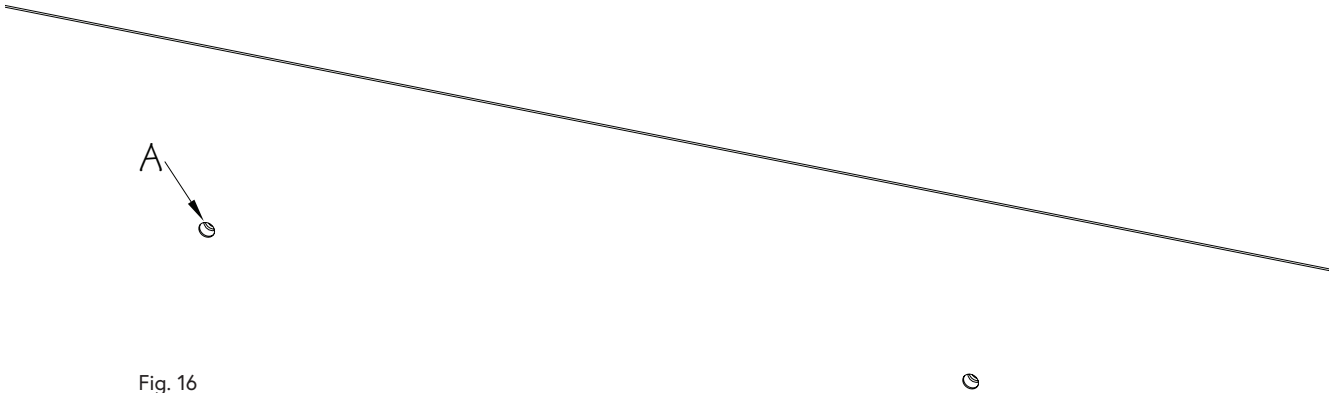

Fig. 16
13. At the top of the pool wall, locate the Couplers (A), behind the liner, from the grab bar mounting kit. Use a sharp utility knife to cut out the round holes in the liner using the coupler holes as a template (Fig. 16).